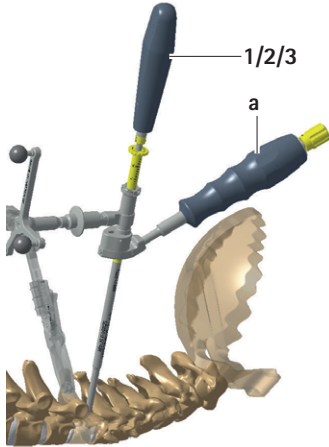

Fig. 4
- ▶ Introduce the cortical punch 1/2/3 into the universal drill guide a (SZ055R/SZ143R), see Fig. 4.